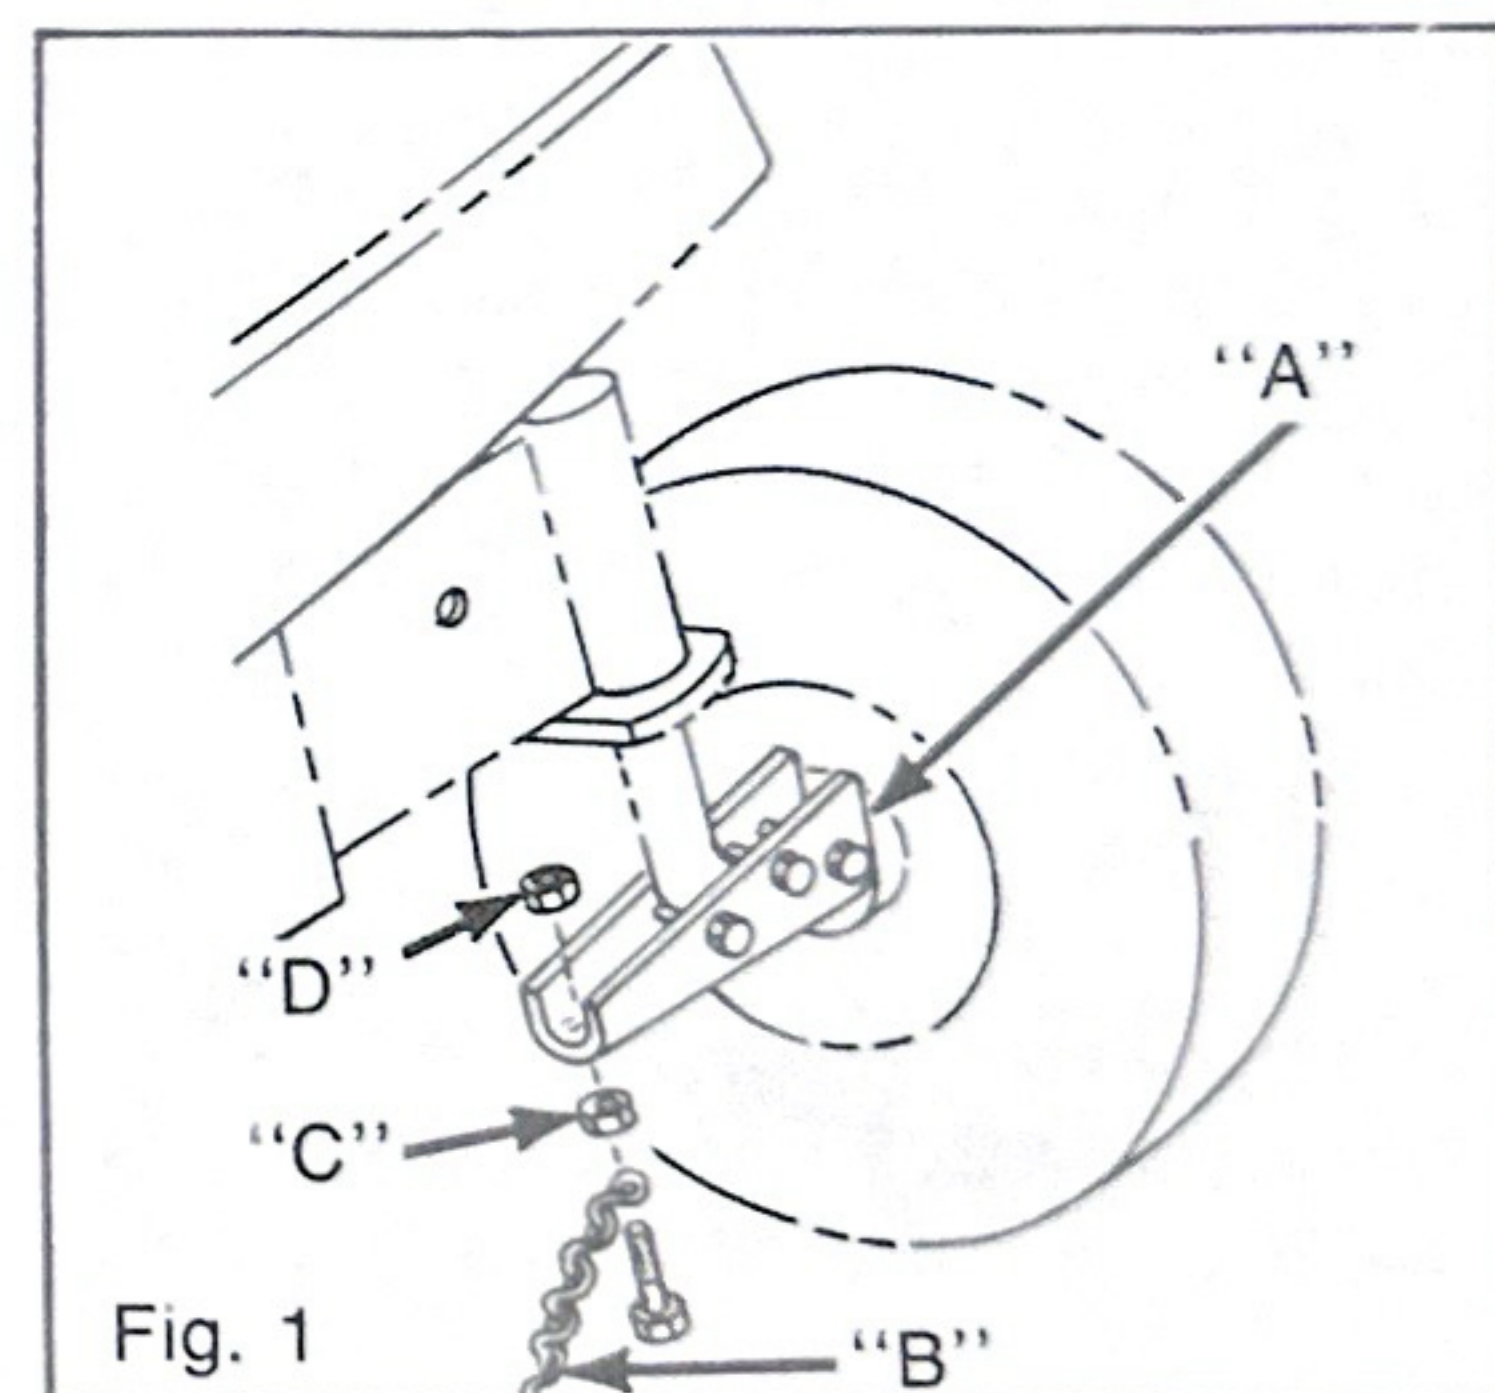

Fig. 1
1. Secure axle bracket "A" Figure 1 to R.H. and L.H. spindle using (3) 5/16-18 x 1-1/2" hex bolts and flange nuts. Axle brackets should be secured parallel to the ground.
2. Assemble chain "B" Figure 1 with eye bolt to each axle bracket using a 1/4-20 x 1" hex bolt, hex nut "C" and lock nut "D". Tighten the two nuts against bracket. Provide a gap for the chain to move freely.